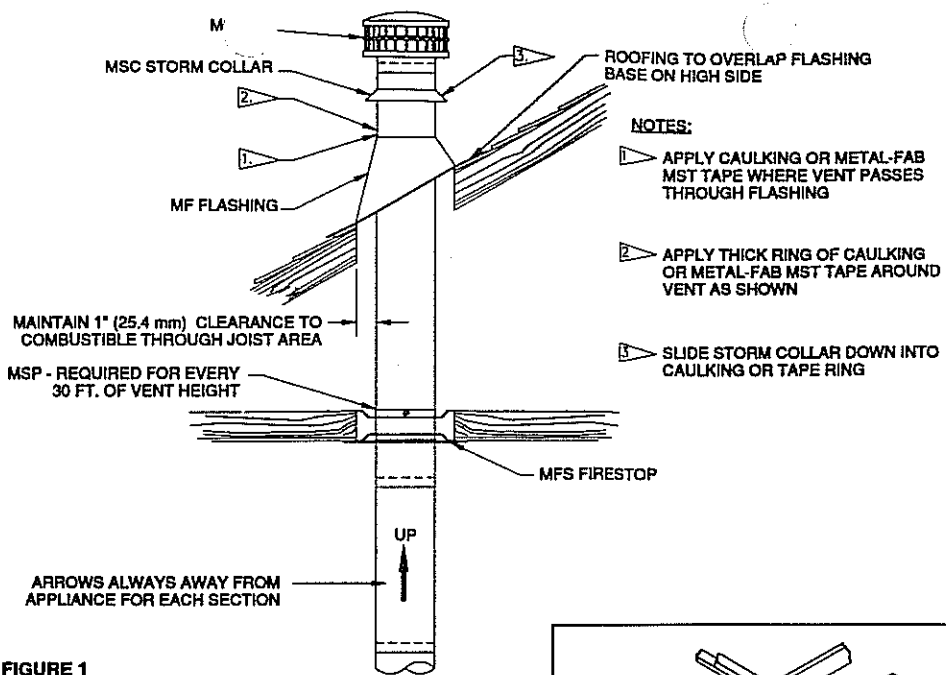

FIGURE 1
2. If this is a single, straight up installation, and the B-Vent must penetrate the ceiling, cut a hole in the ceiling 2 inches (51 mm) larger than the outside diameter (OD) of the outer casing. The B-Vent is to be centered in this opening. When installed, check to make sure the one inch (25.4 mm) clearance to combustible has been maintained. (See Figure 1).
4. Continue with B-Vent penetrating the roof. NOTE: In Canadian installations, use labeled ULC section, designated with suffix G, on vent sections exposed to atmosphere. At the roof, the opening should be 2 inches (51 mm) greater than the B-Vent OD. Above the roof, a flashing is required to maintain the one inch (25.4 mm) clearance to the combustibles of the roof. Installation of a storm collar allows water to drain over the flashing. Caulk as shown in Figure 1.
5. Install the B-Vent cap (MC) onto the B-Vent. NOTE: See height of vents under "SAFETY".